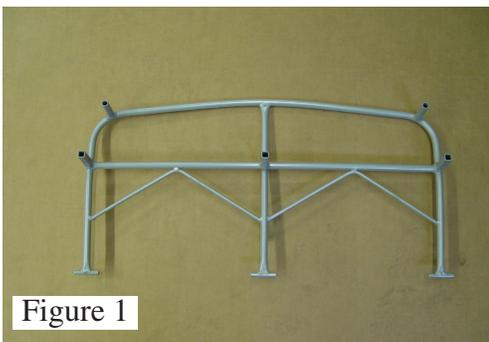

Figure 1
1. Find a clear area of at least 8 sq. feet to assemble rack and begin by placing one of the end frames down on a protected surface to avoid scratching the painted surfaces. (See Figure 1).